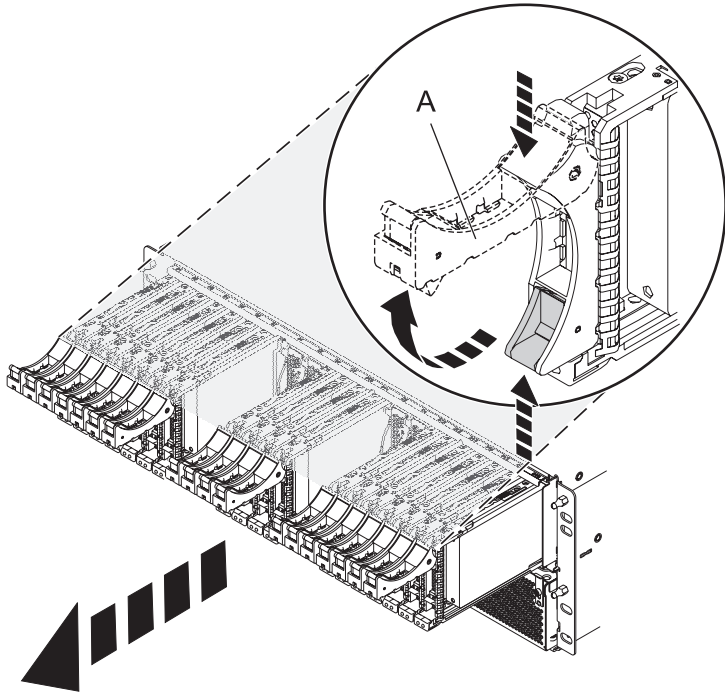

Figure 62. Removing the drives from the backplane
4. Remove the drives and fillers as shown in Figure 62.
- a. Squeeze the latch of the drive and pull the handle (A) toward you to release the drive.